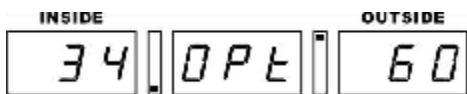

Fig 17
- Press **FINE** key, the control panel will display the actual accurate imbalance value as shown in Fig 17.